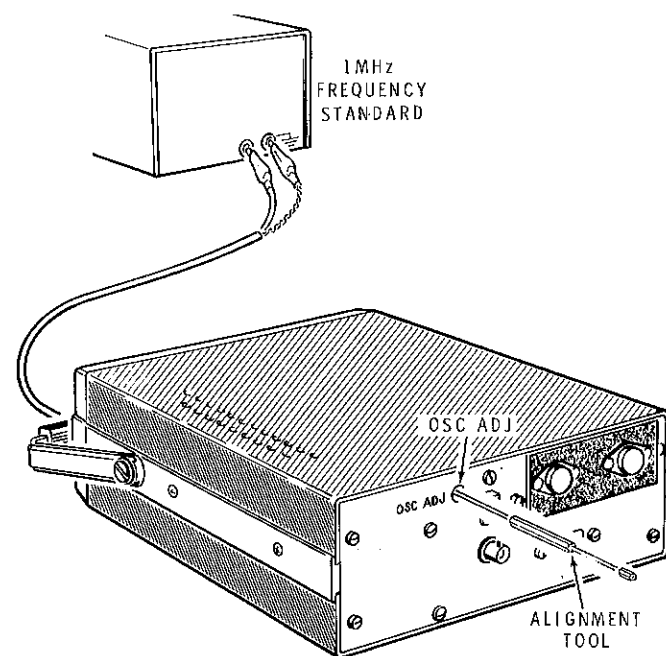

Figure 4
- ( ) Refer to Figure 4 and connect a 1 MHz frequency signal to the input of the Counter.